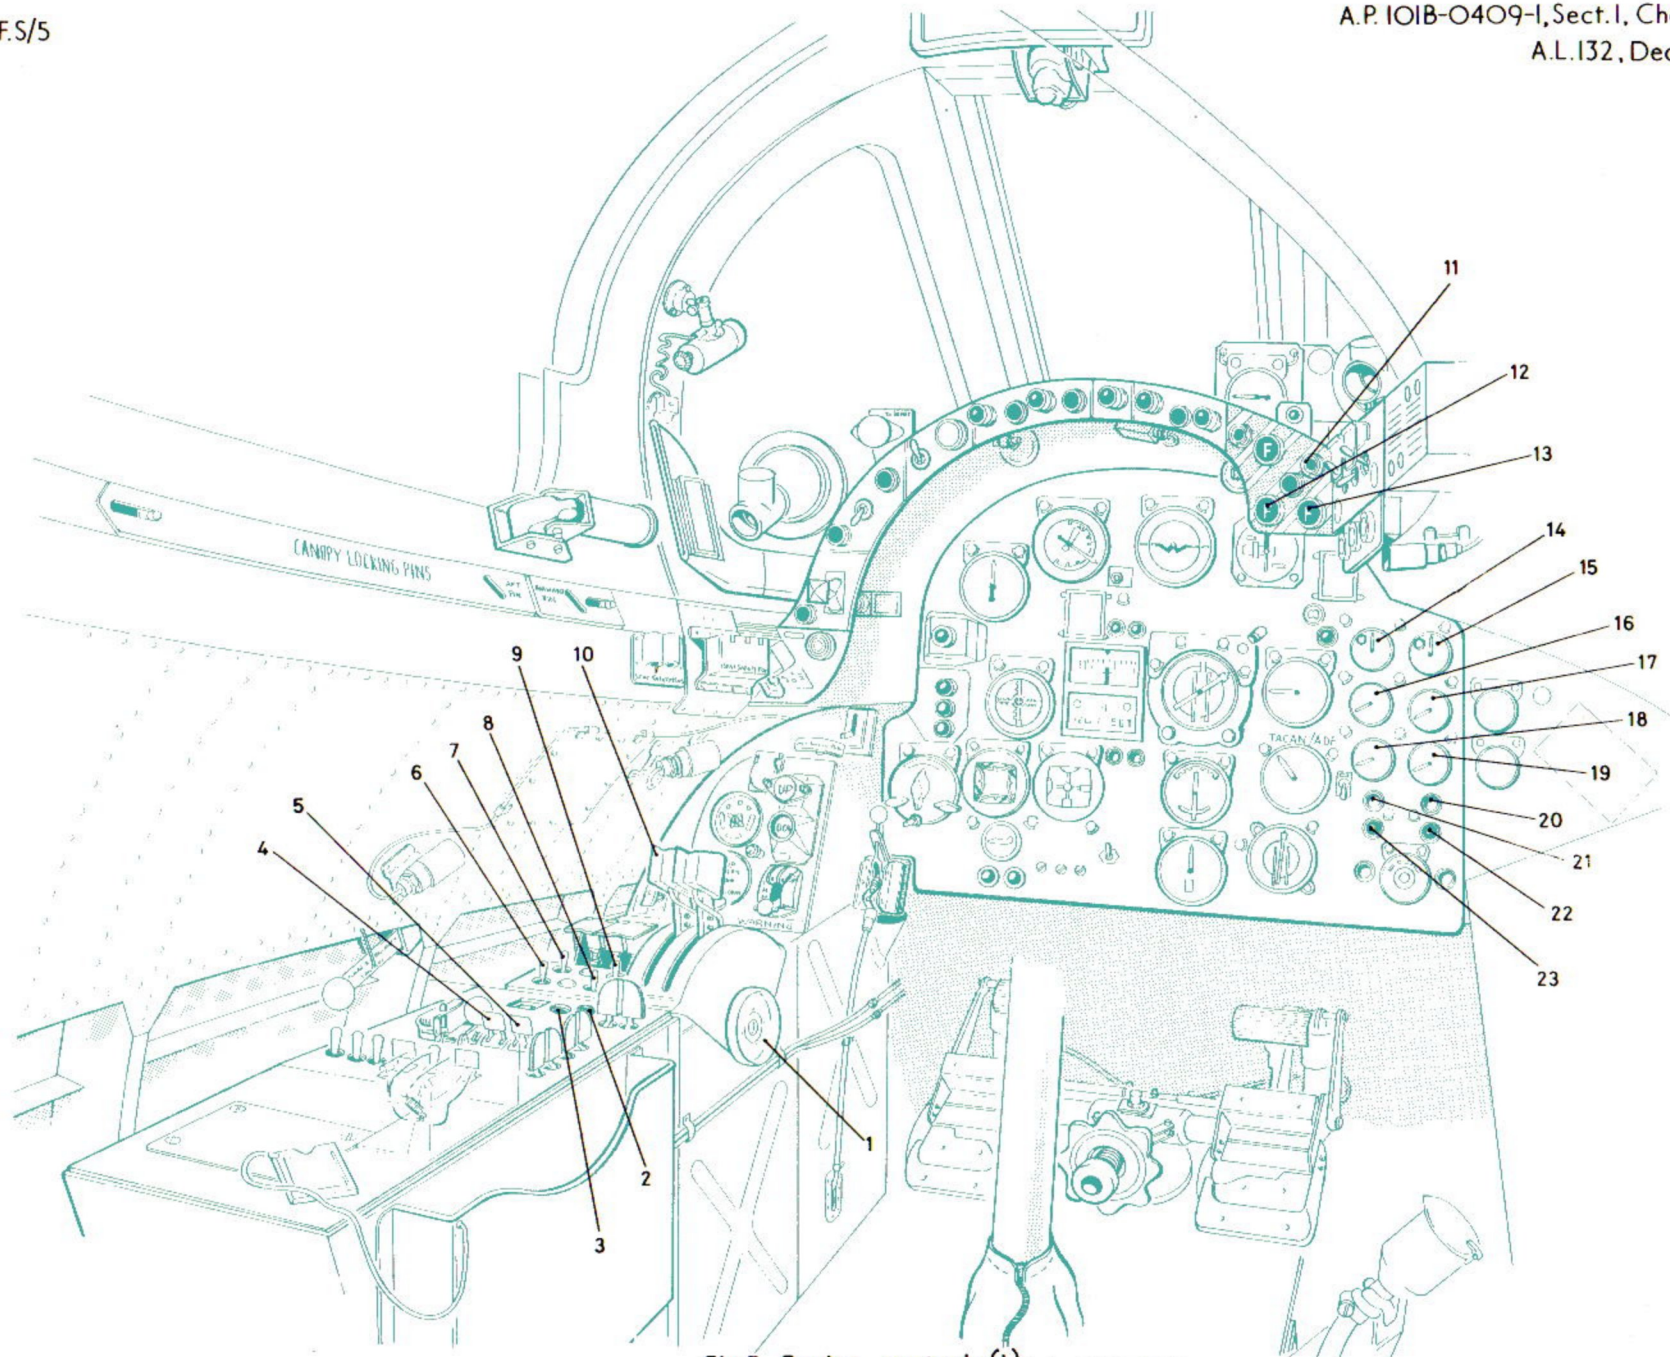

Fig.3 Engine controls (I) MOD 4990 & 5007
## Key to Fig. 3 - ENGINE CONTROLS (1)